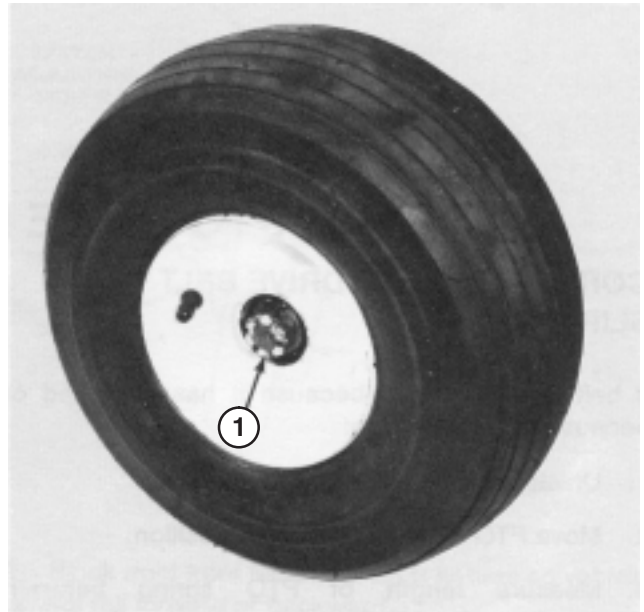

Figure 44
2. Remove dust cap from end of wheel spindle. Also remove cotter pin retaining slotted nut in place (Fig. 44).